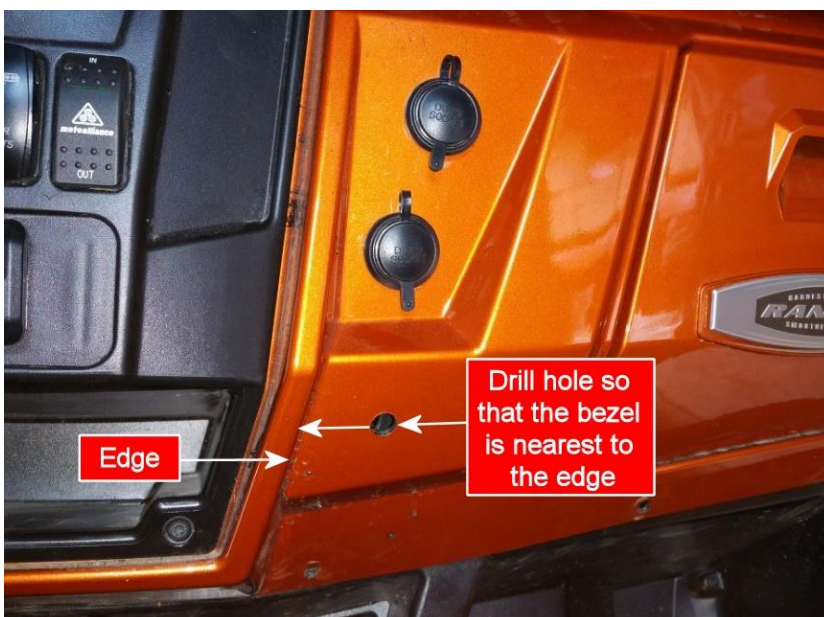

Figure 6
17. Locate the Switch Bezel with the 0,I,II,III markings and cut off the two plastic nubs on the reverse side as shown in Figure 6.
18. Position the Switch Bezel to the right side of the center console as shown in Figure 6.
IMPORTANT NOTE: *Position the Switch Bezel as close to the indicated plastic edge (Figure 6) as possible to eliminate any chance of the switch housing interfering with the glove compartment reinforcement behind the dash.*
19. Mark the hole center and drill a 7/16" hole as shown in Figure 6.